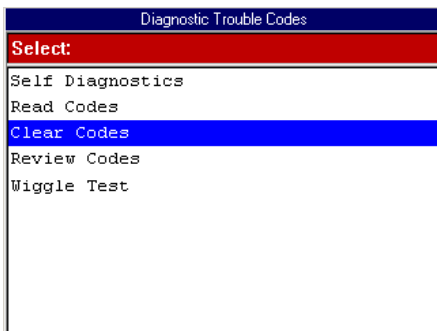

Figure 7.32: Diagnostic Trouble Codes Menu Screen
- If the Diagnostic Trouble Codes menu screen appears (Figure 7.32), go to step 3.